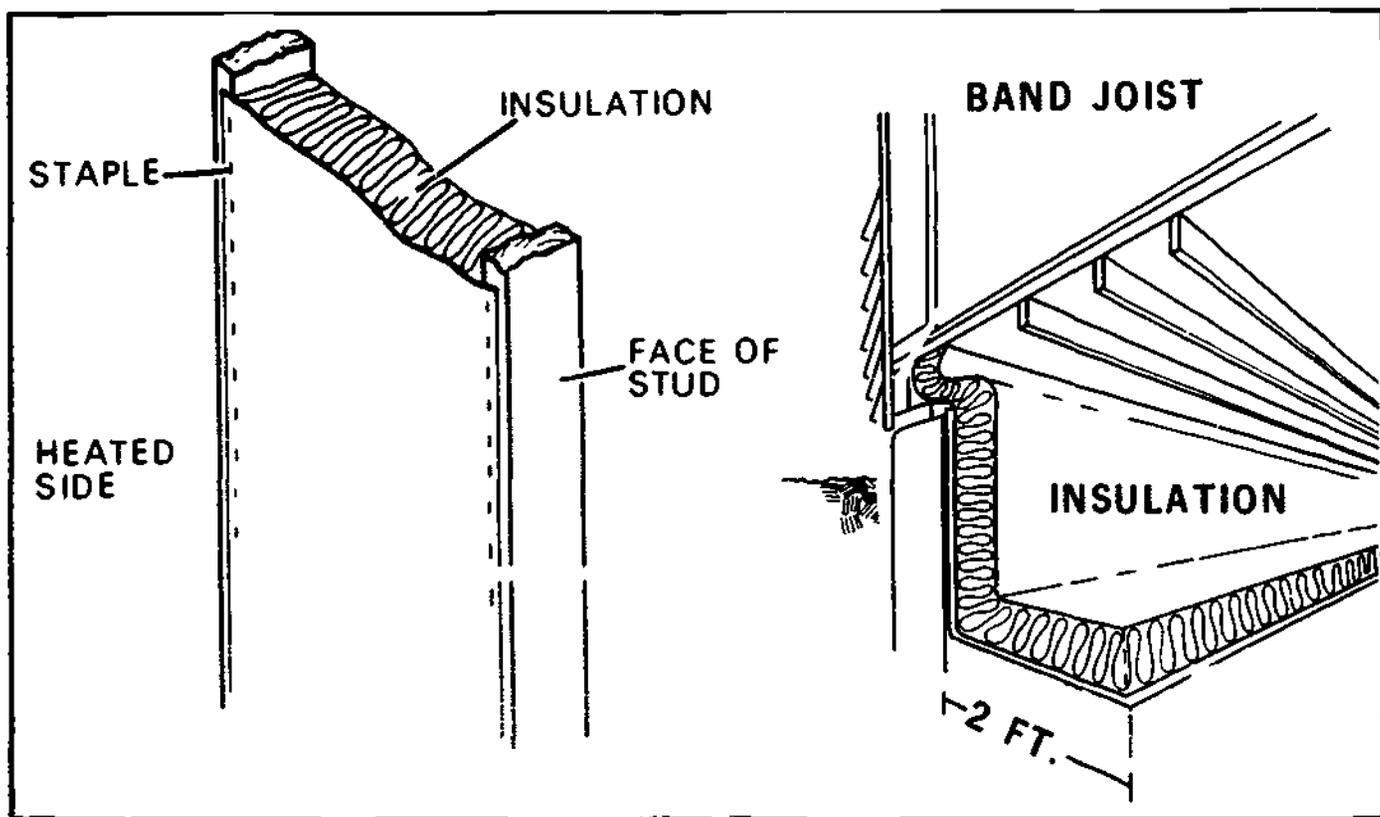

FIGURE 5
2. In Figures 5, page 66, indicate the location of vapor barriers (consider the buildings are in a cold climate).